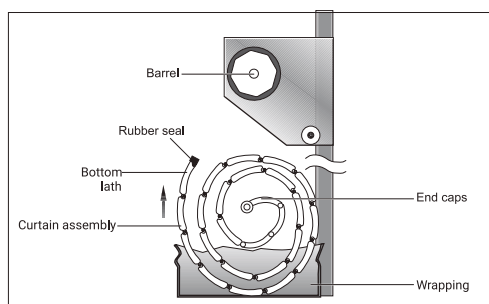

Figure 11
6.2 Carefully position the curtain assembly in the door aperture, below the barrel as shown in (Figure 11). Slit the packaging to gain access to the curtain but leave some of the packaging to protect the curtain.